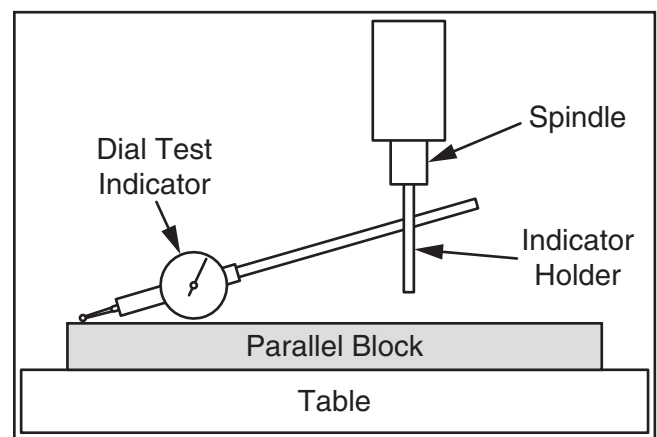

Figure 61. Dial test indicator mounted.
4. Install indicator holder in spindle or on quill, then mount indicator so that point is as parallel to block as possible (see **Figure 61**).
- Rotate spindle by hand so that indicator point rests on one end of parallel block, as illustrated in **Figures 61–62**, then zero the dial.